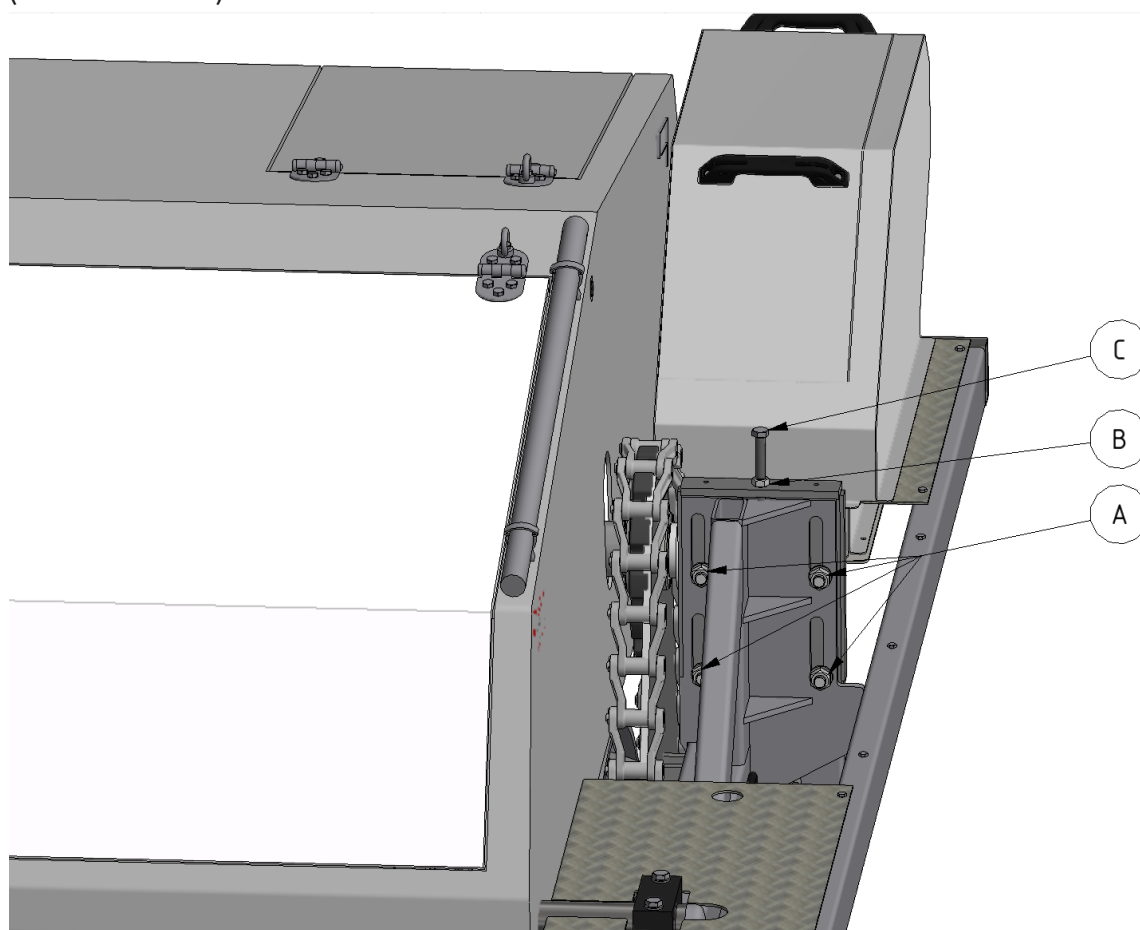

Figure 7.16 Adjusting drive chain tension.
1. Turn the main power switch to OFF (0) and lock with a padlock.
2. Loosen the four nuts (A) (see Figure 7.16).
3. Loosen the nut (B).
4. Adjust the tension of the chain using the screw (C).
5. Secure the screw (C) using the nut (B).
6. Tighten the four nuts (A).